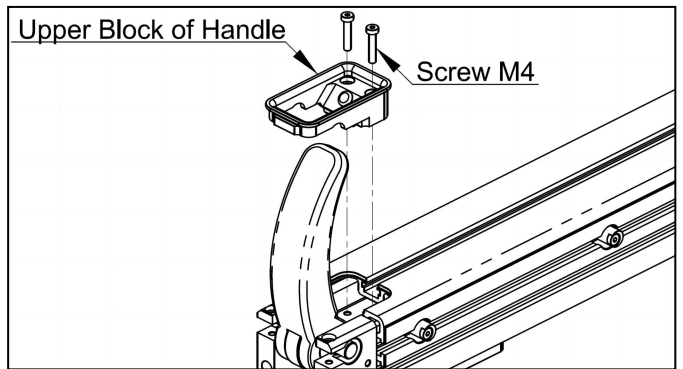

Fig. 9-7
- (7) Take out the upper block of the handle by removing two M4 screws, as shown in **Fig. 9-7**.